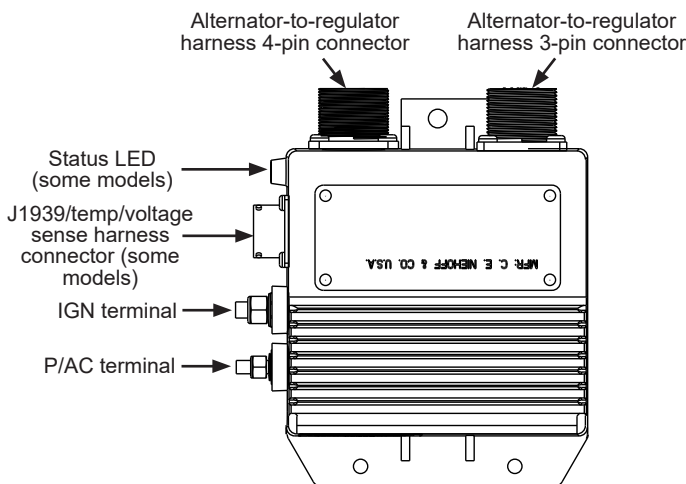

Figure 6: Typical 28V Regulator Connections
2. Securely plug alternator-to-regulator harnesses into receptacles on regulator. See Figures 6 and 7 for receptacle locations.
- **IGN/E terminal** (required) must receive battery voltage from vehicle switched DC ignition source or multiplex in order to energize regulator. Torque terminal hardware to 3.4 Nm/30 lb. in. See Figures 6 and 7.
- **P/AC terminal** (if required) taps AC voltage from alternator, typically half the charge voltage (3A maximum). P/AC terminal provides alternator RPM frequency at 10:1 ratio for use with tachometer. Torque terminal hardware to 3.4 Nm/30 lb. in. See Figures 6 and 7.
- If using a J1939/temperature/voltage sense harness, plug J1939/sense harness into J1939/sense receptacle on regulator. See Figures 6 and 7 for receptacle locations. Refer to instructions included with harness for more information. Harness available separately*.